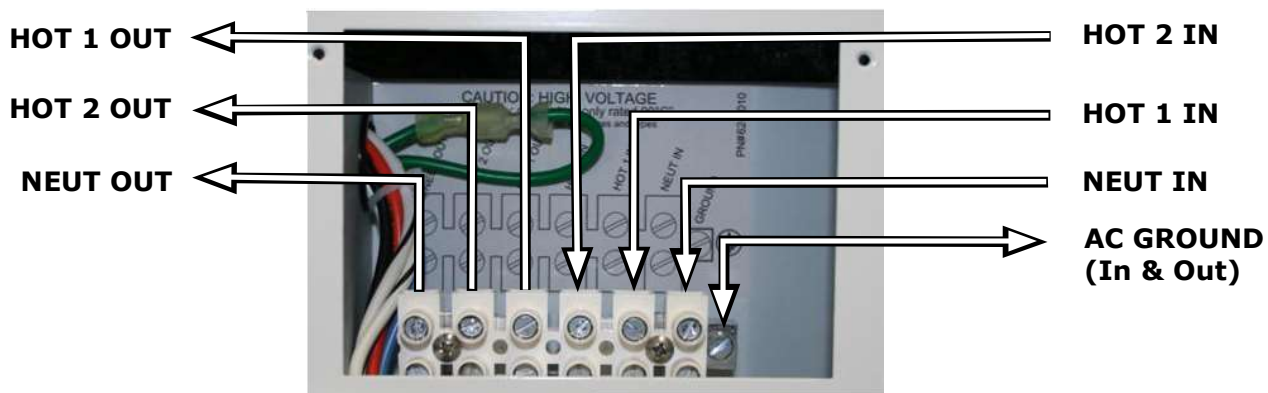

Figure 2-10, AC Terminal Block
These models have a six-pole AC terminal block and one AC ground terminal to connect the inverter's AC input and output wiring. This terminal block (Figure 2-10) allows a service/distribution panel (main panel) to be wired to the inverter's input, and also allows a dedicated panel (sub-panel) between the inverter's output wiring and the AC loads. To access and view the AC terminal block and ground terminal, remove the two Phillips screws holding the AC wiring access cover plate (see Figure 1-3, Item 15). Each connection on the AC terminal block is rated to accept one #14 to #6 AWG (2.1 to 13.3 mm²) CU stranded wire, or two #12 AWG (3.3 mm²) CU stranded wires. Each connection uses a M3.5 slotted head screw, and the maximum tightening torque is 16 lbf-in (1.8 N-m).
1. Remove the two Phillips screws on the AC wiring access cover (Figure 1-3, Item 15) to access the internal AC terminal block (see Figure 2-10).